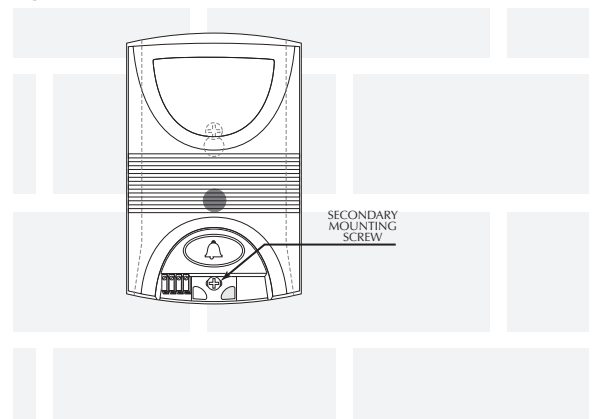

fig 5
5. Connect the four wires to the wiring posts of the TDB-2 as shown in figure 5.